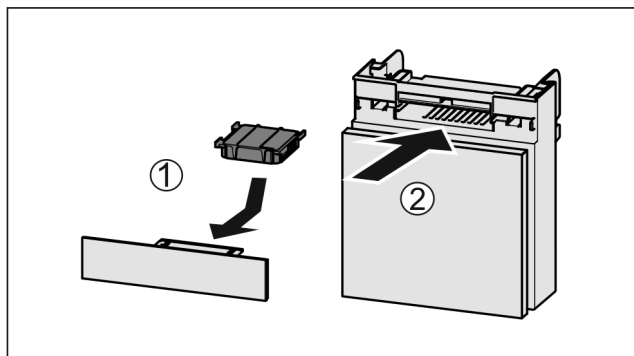

Fig. 114
- Insert the carbon filter as shown in the diagram Fig. 114 (1).
- Push the compartment in Fig. 114 (2).